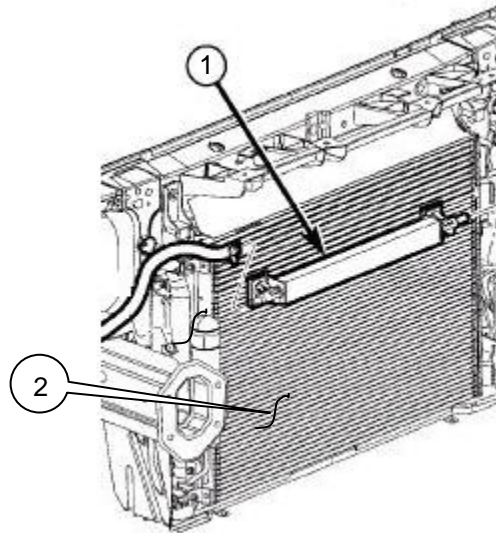

Figure 1- Power Steering Cooler
2. Looking between the radiator support bar and the fascia verify if there is an external power steering cooler installed on the vehicle. Was there an external power steering cooler installed (Fig.1)?